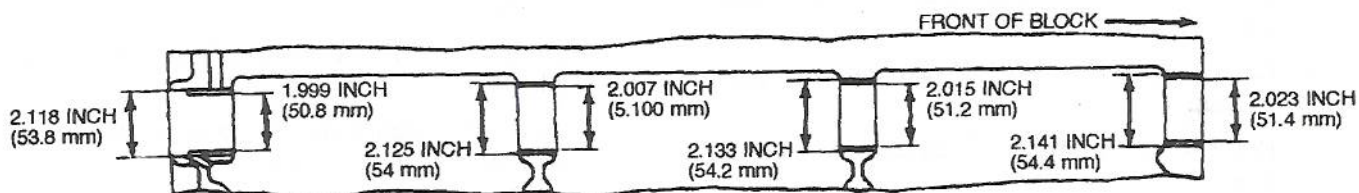

Figure 5-71. Camshaft Bushing Dimensions
- (7) Measure inside dimensions of cam bushing set (5) and the respective camshaft journal diameters as shown in figure 5-71. If clearance is greater than the value in table 6-1, replace the bushing.